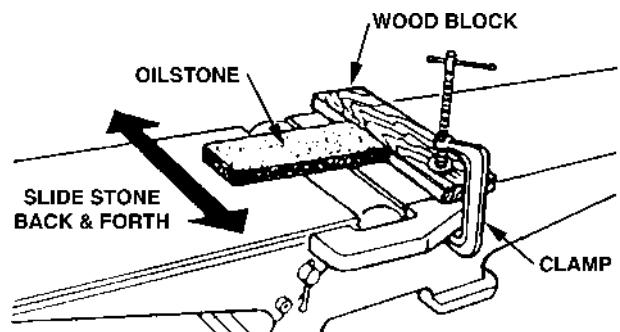

FIGURE 21
4. Clamp a block of wood across the infeed table so that the end of a sharpening stone may be placed against the wood block during the jointing operation. This will help to prevent kickback of the stone. See Figure 21. Lower the outfeed table .003 inches.